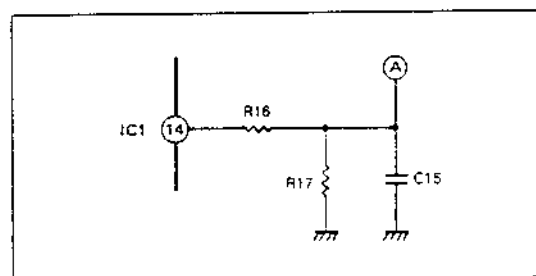

Fig. 2-5-13 Test point
- 2) Connect an oscilloscope to A of the MAIN board, as in Fig.2-5-13.